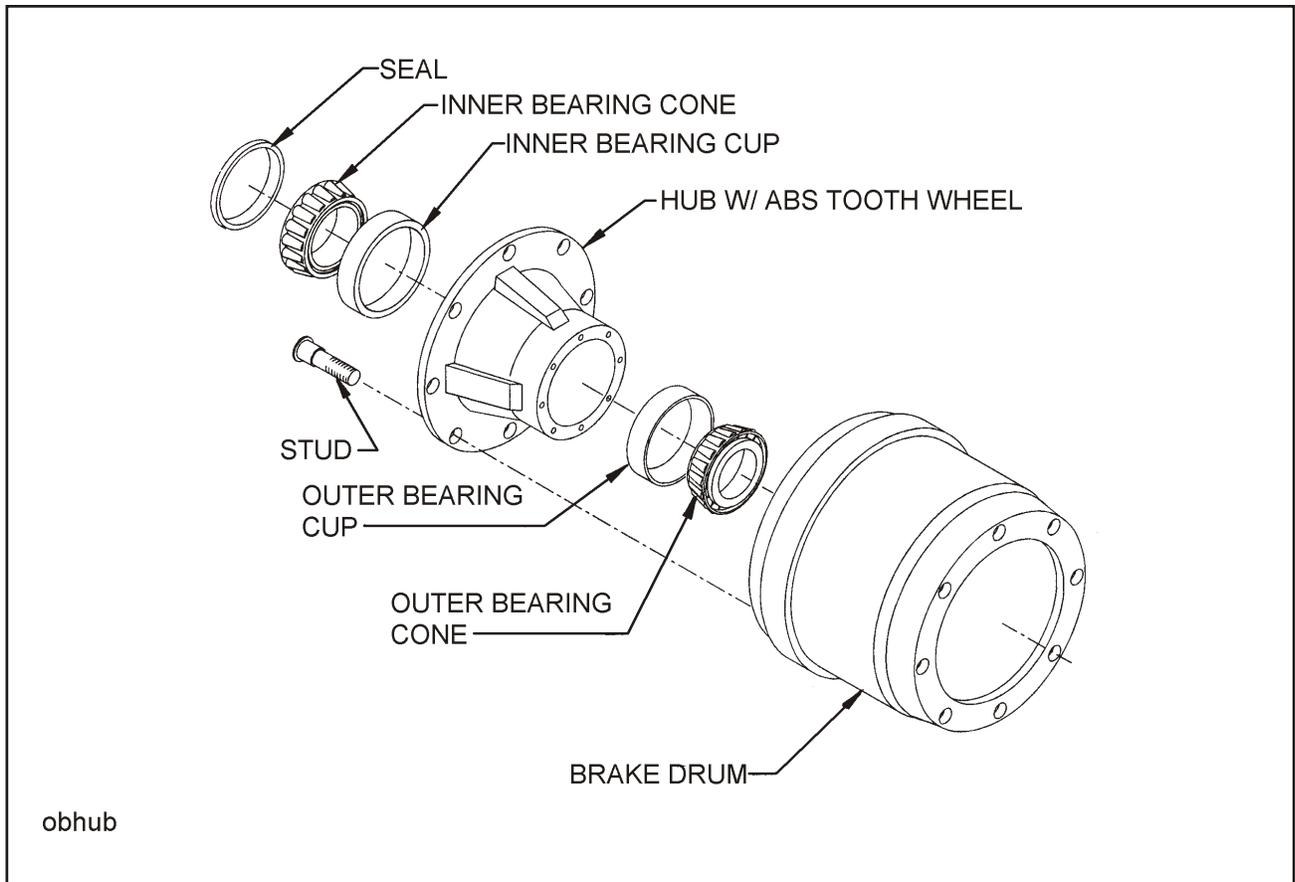

FIGURE 4-12 OUTBOARD MOUNT HUB AND DRUM
- 4-9.4** Replace the hub and drum as follows (**See Figure 4-12**):
- Remove the brake drum (**See Figure 4-12**). It may be necessary to release the slack adjuster.